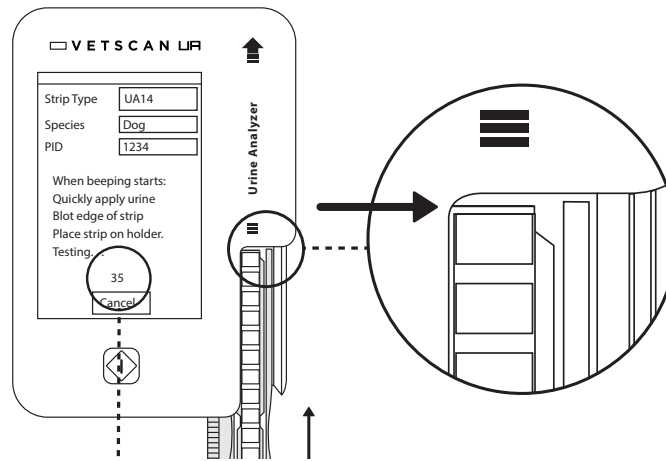

Fig. 24 Place strip onto Strip Tray
7. Place strip on the Strip Tray and push the strip forward to the notch or “stop”. The end of the strip should stop at the indent in the top cover of the UA analyzer, as with normal sample runs. (Fig. 24) **This step should be completed before the countdown timer reaches 35.** The UA analyzer will time the reactions and scan when appropriate.